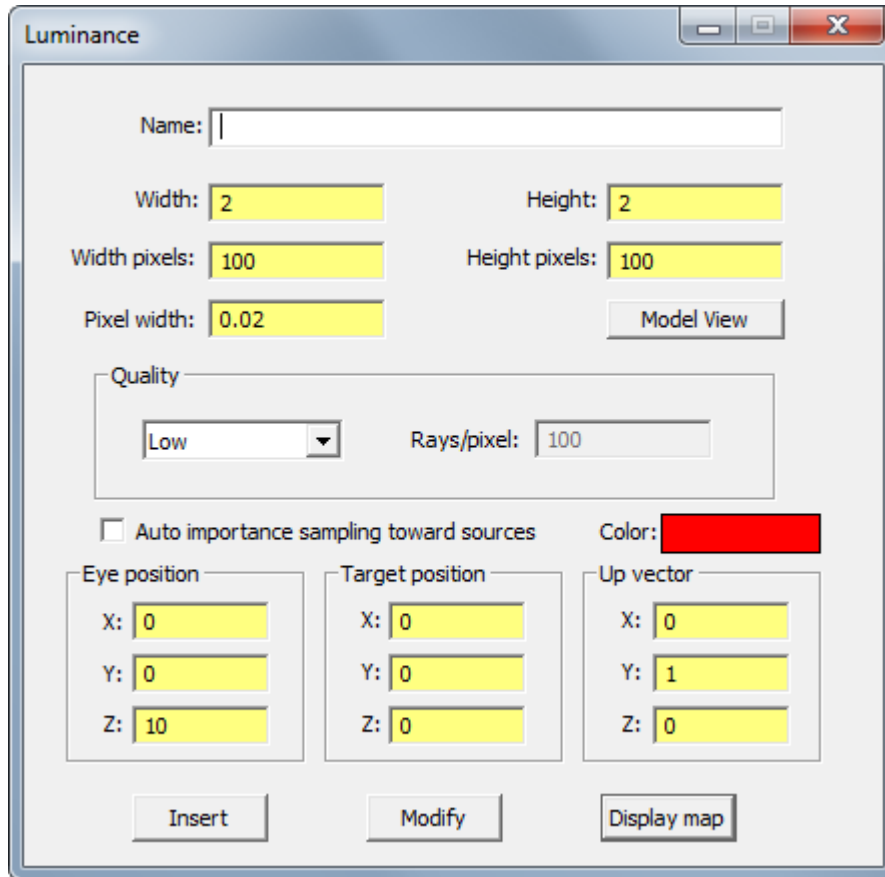

FIGURE 5.28 - Luminance dialog box.
3. Select **Define | Luminance/Radiance** from the TracePro main menu to open the Luminance/Radiance dialog box as shown in Figure 5.28.